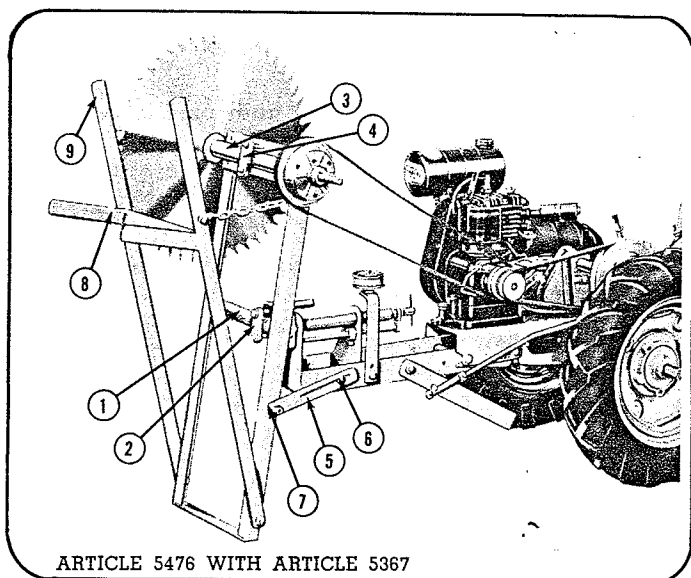

Figure 3
Necessary irons and bolts are shipped with sulky for building cart box 31½" wide, 51" long and 10" deep. A No. 1 Ponderosa pine or equivalent is recommended at a cost of about \$5.00. Instructions on opposite page show wood in actual dimensions, but wood is purchased in commercial dimensions. Either screws or nails may be used in assembling box. When dump cart box is finished remove sulky seat and place cart box on dump frame securing it with (4) carriage bolts. See Fig. 3. Dump cart body prop (A, Fig. 3) is secured to box with (2) bolts (B, Fig. 3) and held to frame with moveable U shaped latch (C, Fig. 3). Remove frame bolt (D, Fig. 3) to allow for dumping at 60° angle. Tongue (E, Fig. 3) is lengthened when using dump cart. Brake lock (F, Fig. 3) allows easy dumping on hills as well as on level ground. Tail gate construction prevents dirt from clogging gate groove. Tractor handles may be raised or lowered to best position for operator.
2. Loosen arbor clamp bolts and remove arbor. Place cradle tube (1, Fig. 3) in arbor clamp (2, Fig. 3), keeping cradle as far to the right as possible and tighten clamp bolts. See Fig. 3.
3. Place arbor (3, Fig. 3) in arbor clamp (4, Fig. 3) on top of cradle and adjust arbor pulley to line up with inside groove of engine pulley.
4. Remove cradle holder (5, Fig. 3) from cradle and attach to saw frame at (6, Fig. 3) and to cradle frame at (7, Fig. 3).
2. To use cradle place wood on support arms (8, Fig. 3). Move support arms past saw, being sure to keep hands to the right of the extension (9, Fig. 3), well away from the saw blade.